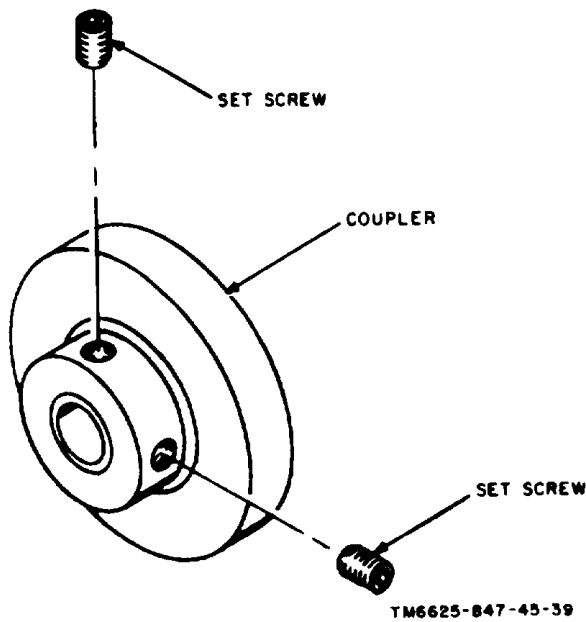

Figure 3-4. Common module tray A1A1, gear drive assembly coupe.
- (1) Remove the setscrews from the motor driven coupler (fig. 3-4).
- (2) Remove the coupler from the shaft.